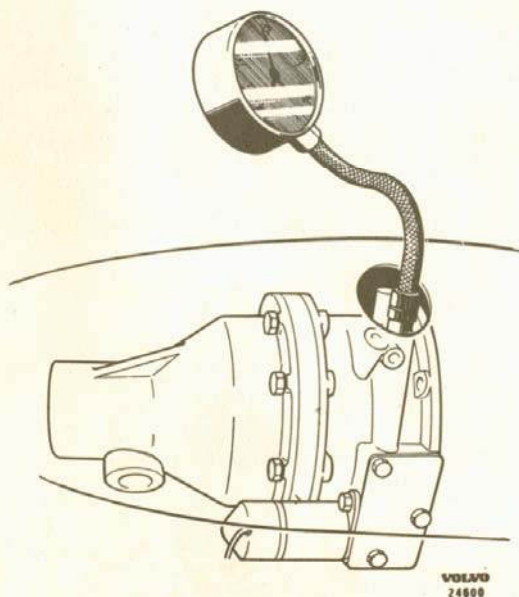

Fig. 3-40. Checking oil pressure with pressure gauge SVO 2415
2. Remove the plug over the control valve and connect oil pressure gauge SVO 2415, see Fig. 3-40.
- NOTE. The spring (47, illustration III-B), stud (50) and ball (51) should remain in position.